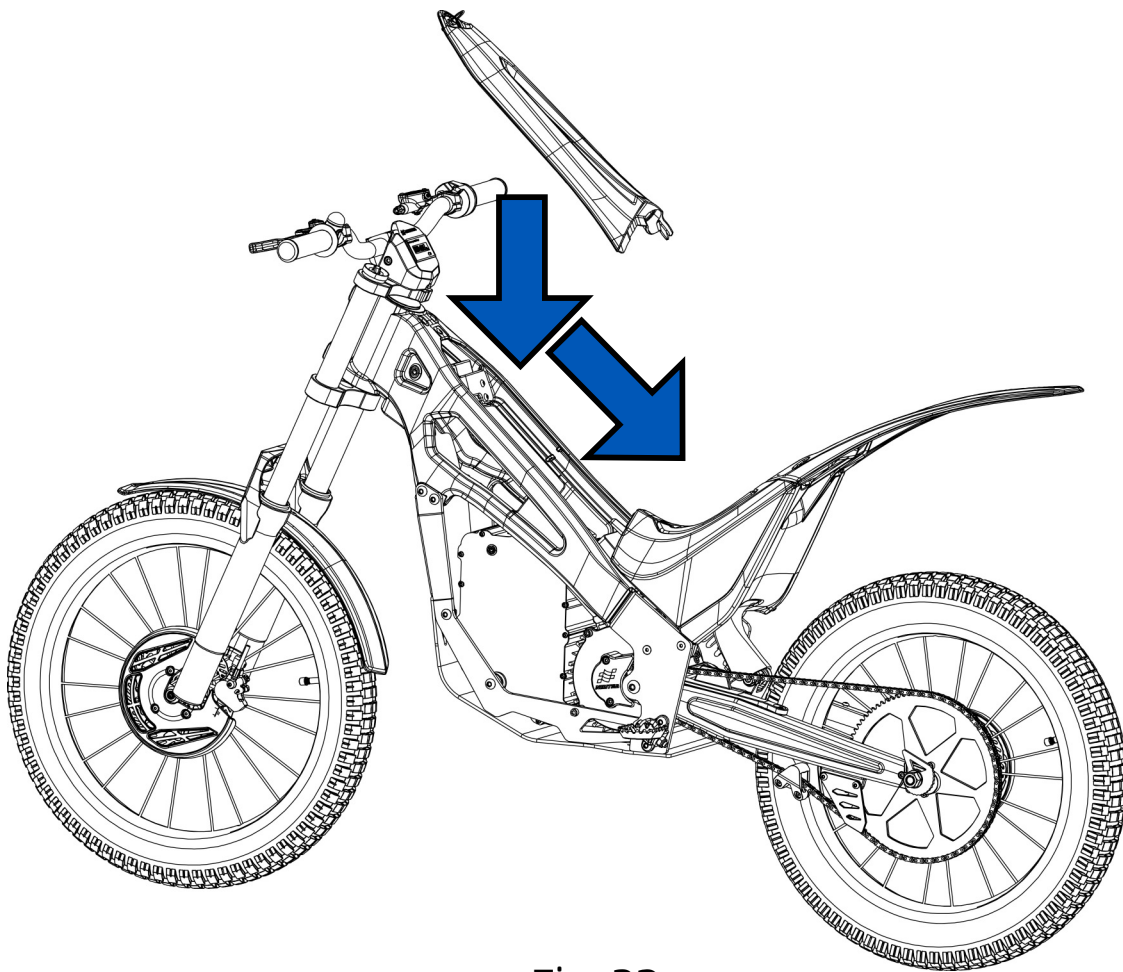

Fig. 32
- 6- Next, attach the upper casing to the frame (Figure 32).